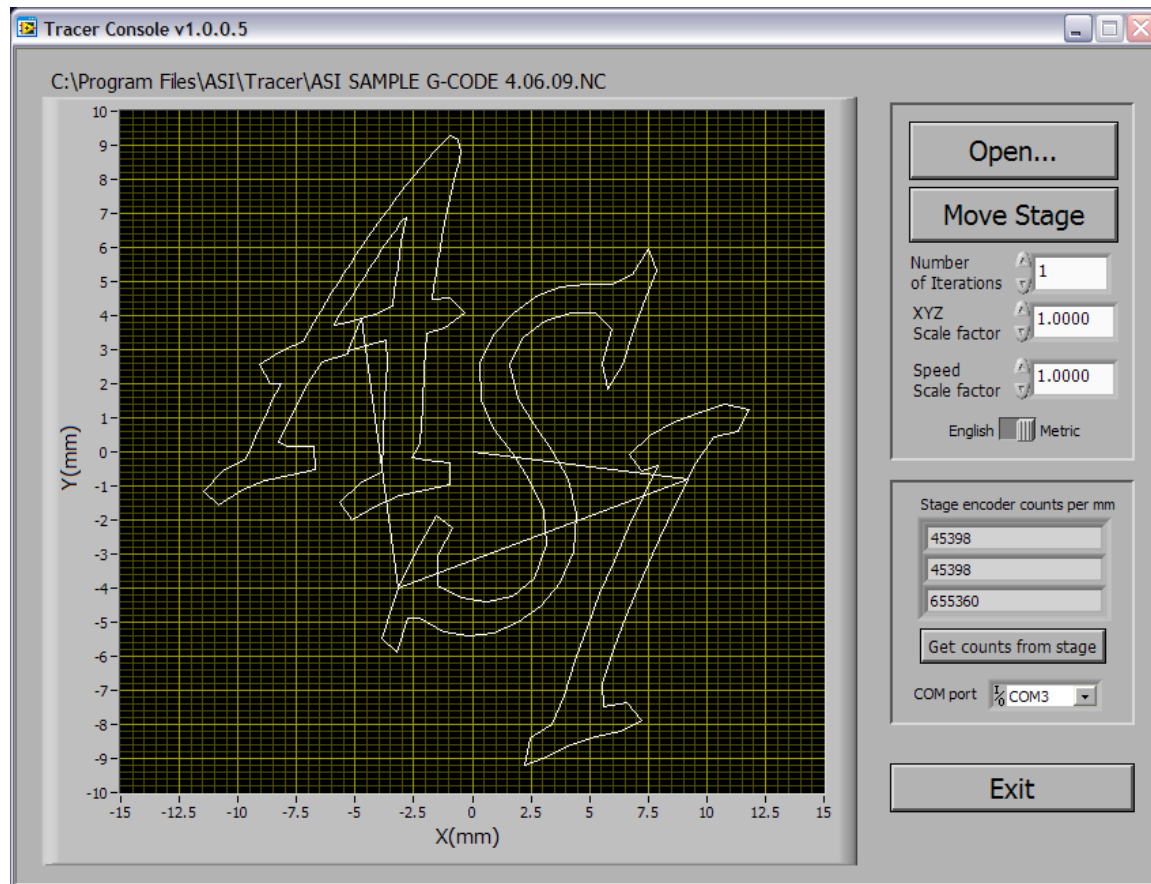

Figure 6 Tracer Console Application Window
In order for the WK2000 to be controlled by G code, it is necessary to use the Tracer Console (TC) application. The application window is pictured in Figure 6.
The file referred to in Figure 6, *ASI Sample G-code 4.06.09.NC*, was generated by CAM software for a computer numerical control (CNC). If a CNC were operated under the control of this file, it would move a tool tracing an image of the letters *ASI*.
Figure 6 illustrates the path followed by a machine under control of this file. The straight lines that are not part of the letters *ASI* show where the cutting tool been lifted away from the metal by the command **Z .1**.